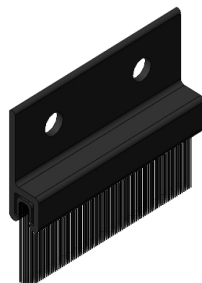

Figure 29:
7. After all panels have been adjusted plum and level and panels close and lock, open panels and install air barriers. Air barriers are attached to the bottom (Figure 29) and top (Figure 30) of all sliding interlockers and secured with (2) #6 x 3/8" long, Tek screw.